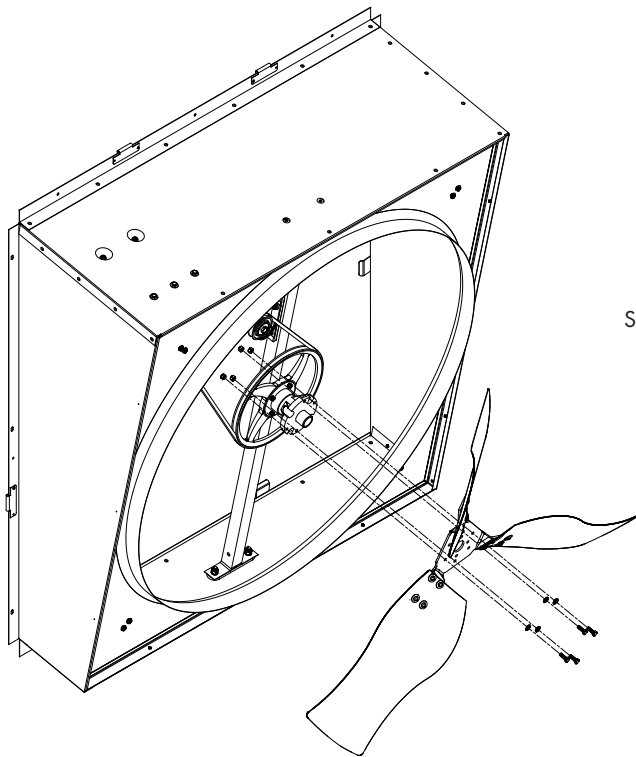

Figure 5A
Attach Propeller to hub assembly and secure using (4) M8 Bolts [H], Star Washers [J] and Nuts [K]. Tighten bolts to 180 in-lbs. [20 N-m] of torque. See Figure 5A and 5B.